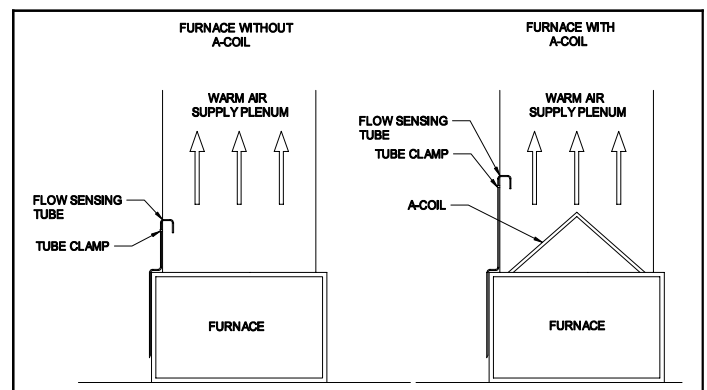

Figure 3
4. Insert the tube into the 1/4" hole such that the open end is pointing directly into the oncoming air flow. (See Figure 3).